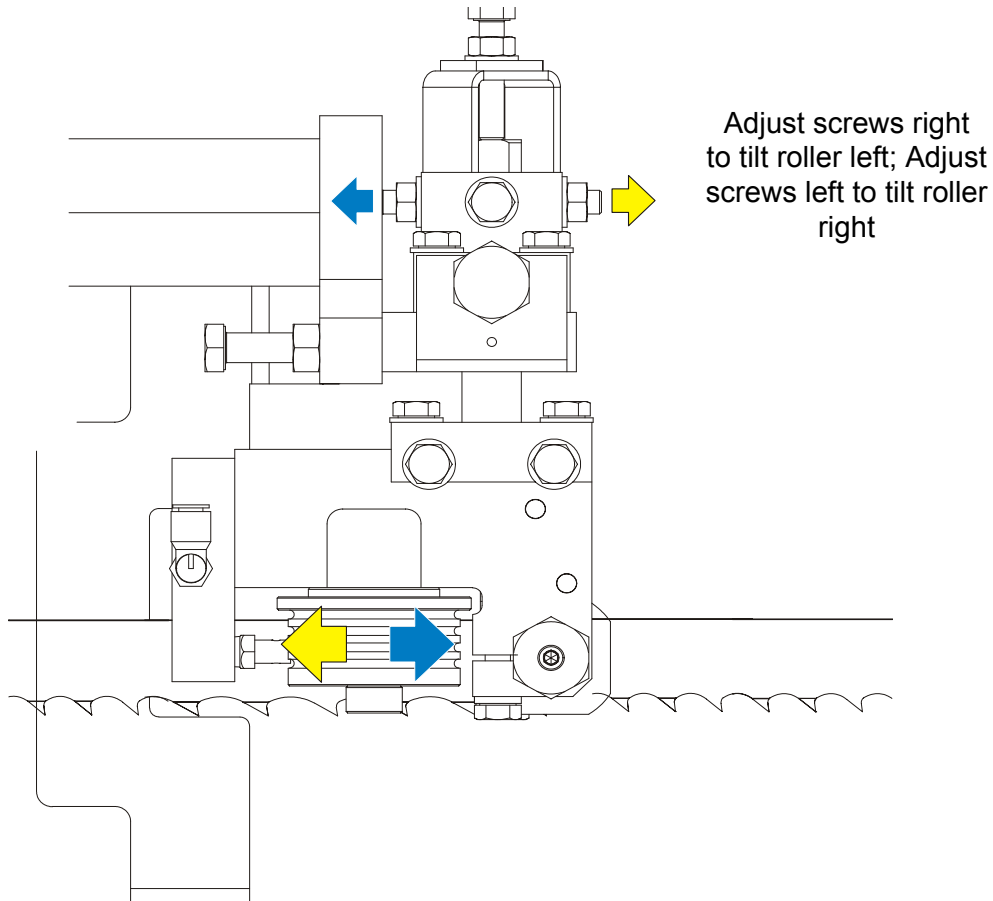

FIG. 7-26
**See Figure 7-26.** Loosen the jam nuts on the horizontal tilt adjustment screws. To tilt the roller left, loosen the right screw and tighten left screw. To tilt the roller right, loosen the left screw and tighten the right screw. Tighten the jam nuts and recheck the tilt of the blade.